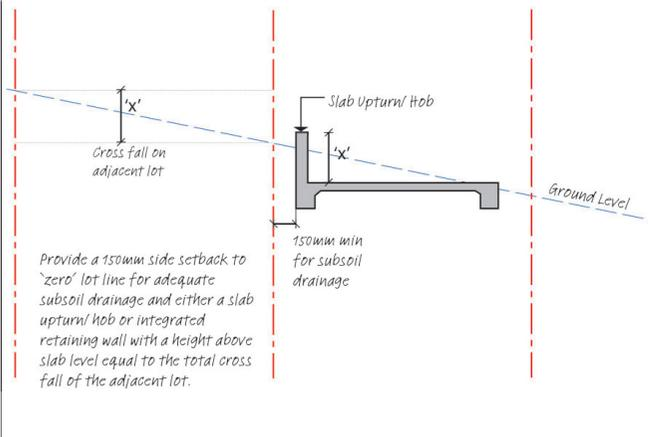

FIGURE 17: Zero Lot Line Construction Type 1
- be 150mm (approximately) where required to provide for subsoil and roof drainage (Figure 17); or